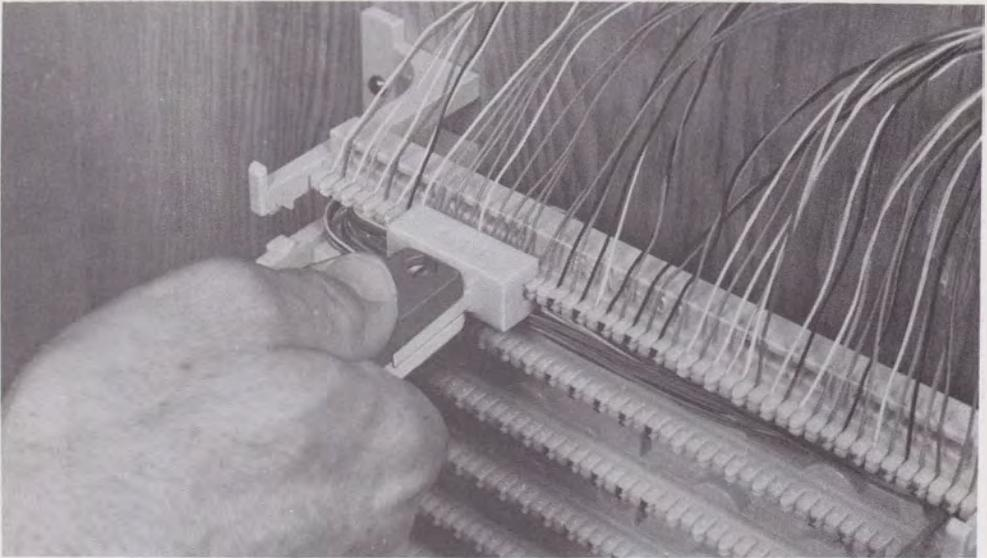

Fig. 15—Seating Conductors in Index Strip
3.12 After all pairs are placed in a pair of index strips adjacent to a cable space, the 788B1 or 788H1 insertion tool is used to seat the conductors in the index strip (Fig. 15). Start at the end of the index strip nearest the cable entrance and work across the block. Make sure conductors are